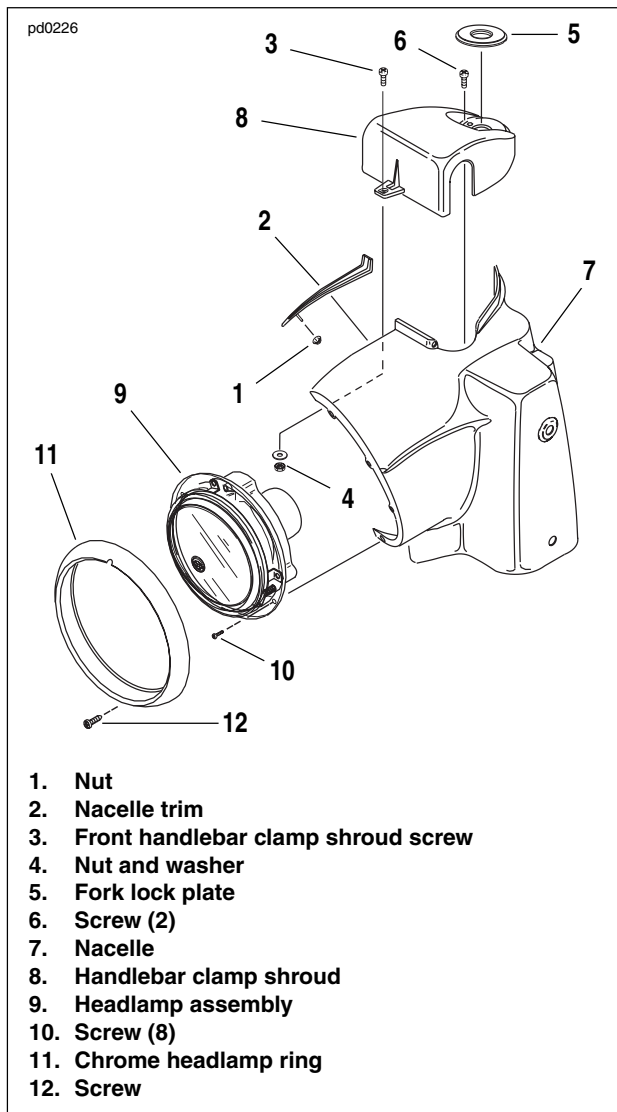

Figure 1-13. FLHR/C, FLHP, FLHPE Models
1. See Figure 1-13. Remove screw (12) securing chrome ring (11) to headlamp nacelle (7). Remove chrome ring.
2. Remove eight screws (10) securing headlamp assembly (9). Squeeze two external tabs (if present) to remove wire connector at back of headlamp bulb. Remove headlamp assembly from vehicle.
3. Remove nut (1) (inside nacelle) securing nacelle trim (2).
5. Remove nacelle trim. Loosen (but do not remove) front handlebar clamp shroud screw (3), nut and washer (4).
6. Gently pry off fork lock plate (5) at rear of handlebar clamp shroud (8). Remove two screws (6) beneath lock plate.